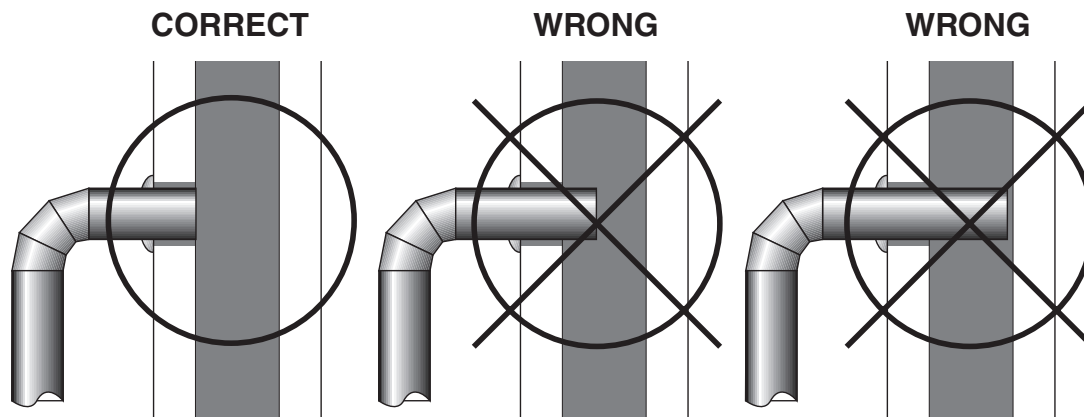

Fig. 7 – Stovepipe/Flue Connections
4. The pipe cannot extend into the chimney flue (figure 7).
5. Secure pipe/elbow sections with three (3) sheet metal screws at each joint to make the piping rigid.
6. It is recommended that no more than two (2) 90° bends be used in the stovepipe installation. The use of more than two 90° bends may
2. Install a metal or fire clay (5/8” minimum thickness) thimble. Make sure the thimble is flush with the inner surface of the chimney liner and does not protrude into the flue (see figure 7 on page 6).
4. Install the stovepipe into the thimble as far as possible without extending past the flue lining (see figures 7 & 8 on pages 6 & 7).